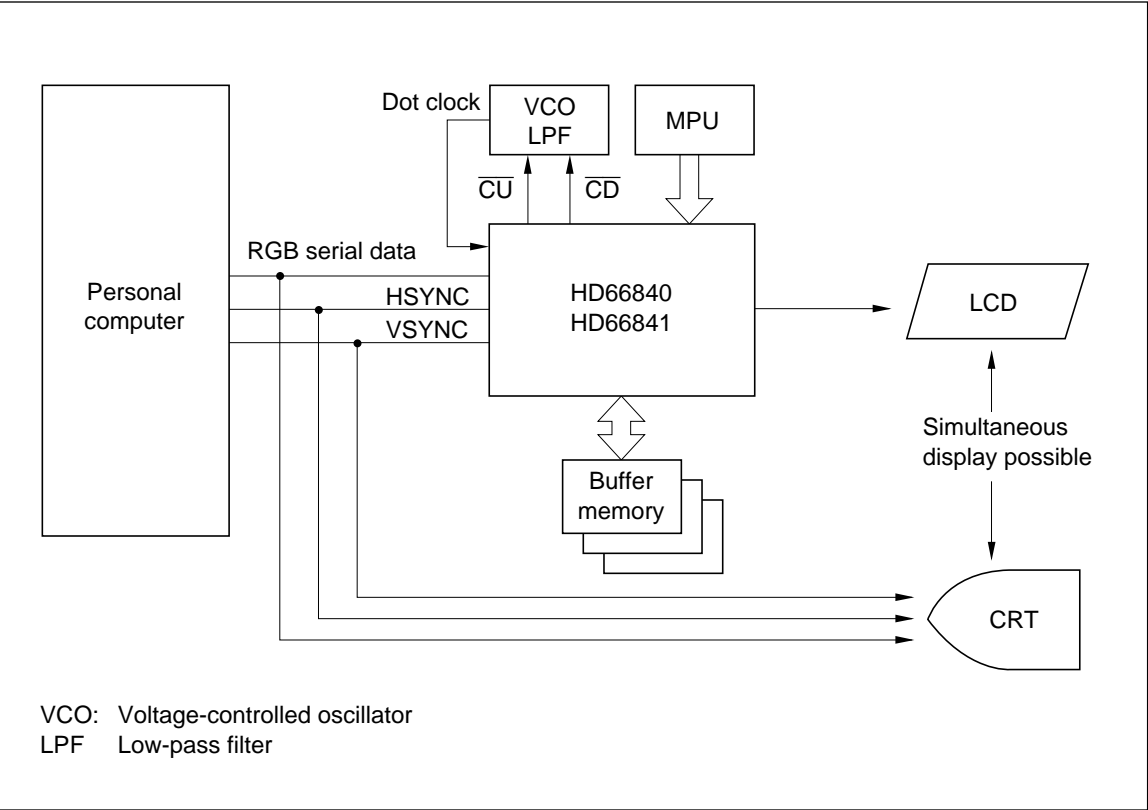
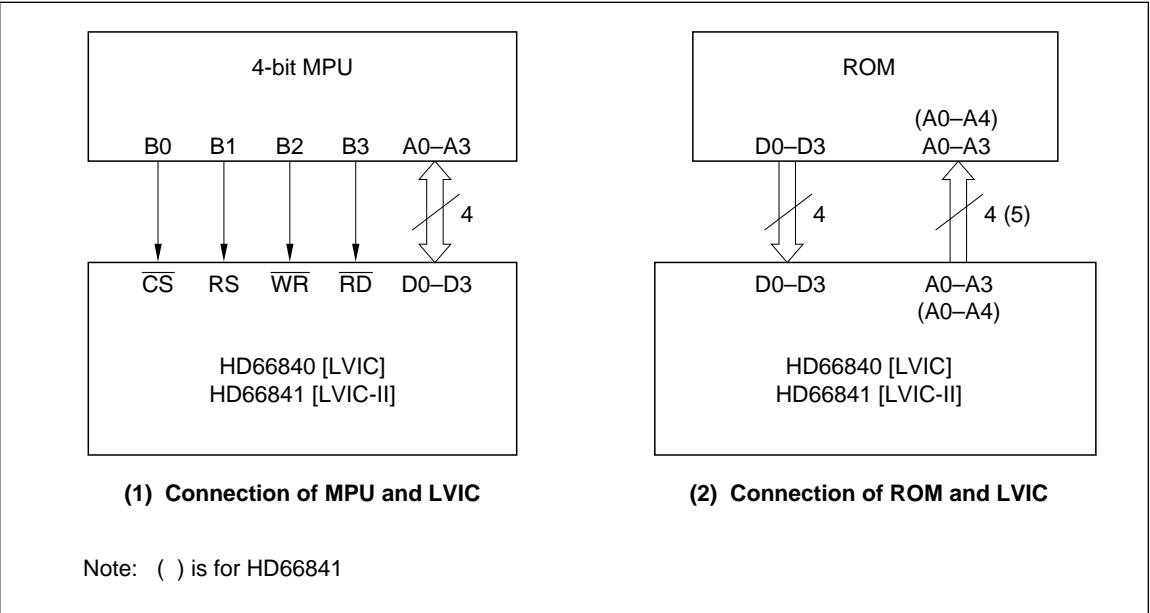

Figure 3 System Block Diagram (with MPU Programming Method and DOTCLK Generated Internally)
Figure 4 Connection of MPU or ROM and HD66840/HD66841
Figure 3 is a block diagram of a system in which the HD66840 and HD66841 is used outside a personal computer.
Internal Register Programming Method: In the internal register programming method, an MPU or ROM writes data into internal registers to control functions. Figure 4 illustrates the connections of MPU or ROM and the LVIC. Figure 3 (1) is an example of using a 4-bit microprocessor, but since the HD66840/HD66841 MPU bus is compatible with the 4-MHz 80-family controller bus, it can also be connected directly with the bus of host MPU.